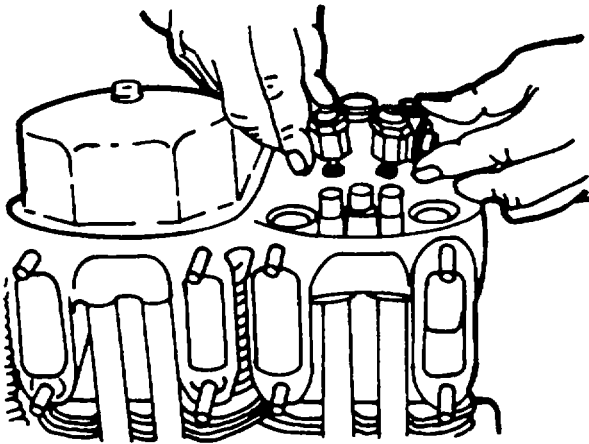

Figure 4-34. Mounting Rocker Arm Shaft Support
- s. Install the rocker arm and shaft support (figure 4-34).